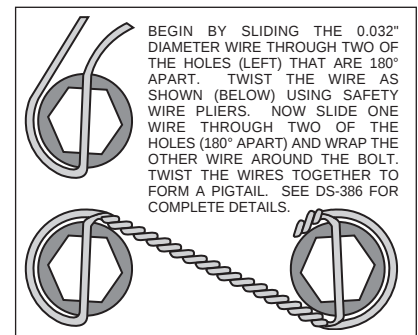
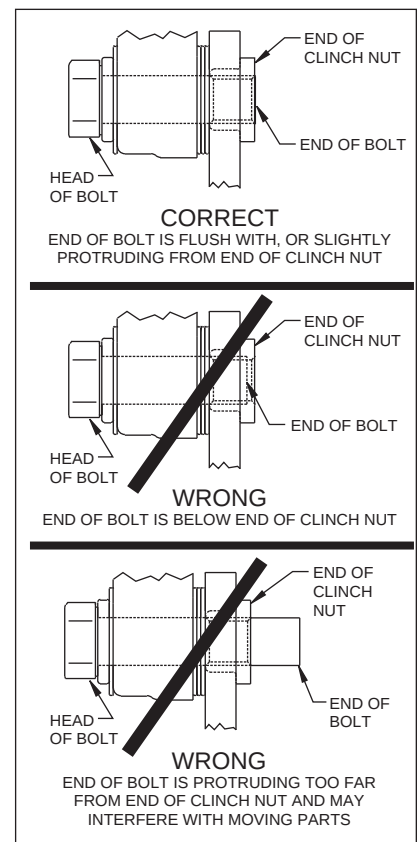

Figure 7. Safety Wire Diagram
Figure 8.
- The rotor (3) has two sides. A flat side and an inset side. Bolt hat (2) to flat side of rotor (3) using bolts (5). Using an alternating sequence, apply red *Loctite*® 271 to the threads and torque bolts to 25 ft-lb. For an added measure of security, the bolts may be safety wired using standard 0.032 inch diameter stainless steel safety wire as shown in Figure 7. Refer to Wilwood's data sheet DS-386 (available at www.wilwood.com/Pdf/DataSheets/ds386.pdf) for complete safety wire installation instructions.
- Align the correct hole pattern in the hat (2) with the stud pattern on the axle flange. **NOTE:** Some OEM and after market axles come with stud sizes larger than 0.50" diameter. Verify stud size and have a qualified machine shop drill the hats to the correct size. Slide the hat/rotor assembly (2 and 3) over the wheel studs and against the axle flange face.
- NOTE:** Please reference the caution statement at the beginning of the assembly instructions. Mount the caliper (6) over the rotor (3) and onto the caliper mounting bracket (1) using the washers (7) and mounting bolts (8). View the rotor through the top opening of the caliper. The rotor should be aligned in the center of the caliper. If not, adjust the caliper by using 0.032 inch shims (9) by placing them between the caliper mounting bracket (1) and the caliper (6). Add as many shim washers (9) as necessary to achieve the correct alignment. **NOTE:** The end of the bolt must be flush with or slightly protruding from the head of the clinch nut. See Figure 8. Place spare shims (9) between washer and caliper mounting ear to achieve the proper mounting fastener configuration. Always use the same amount of shims on both the top and bottom caliper mounting bolts (8). Apply red *Loctite*® 271 to the mounting bolt threads (8) and torque to 40 ft-lb. Caliper mount bolts may be safety wired for additional security.
- Position the Wilwood disc brake pads (10) into the caliper (6) and fasten with cotter pin (4). Steel backing plate side of brake pad should face the caliper pistons.